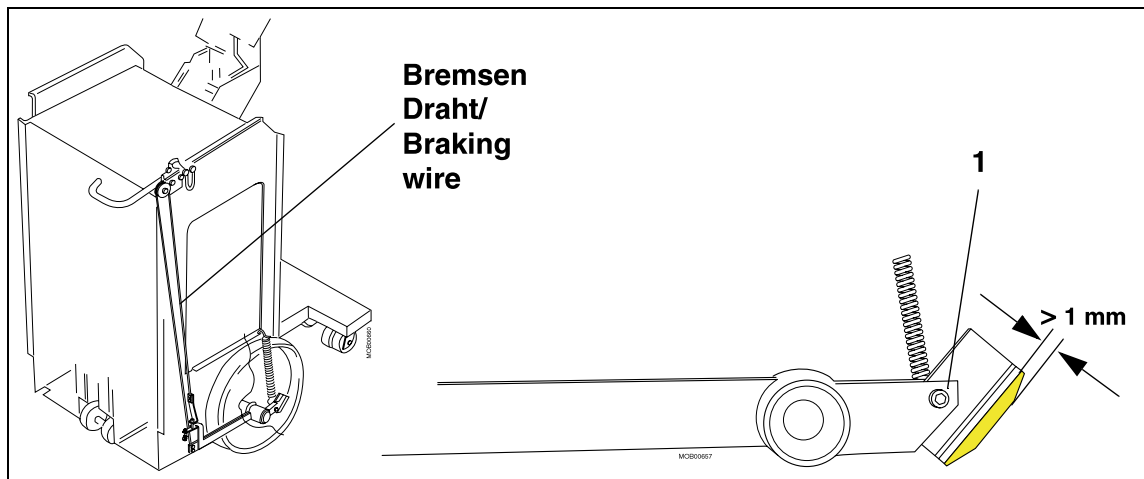

Fig. 59: Wheel brake
- Check the brake linings. If the brake linings are thinner than 1 mm, they must be replaced (Fig. 59 / p. 68).
- Loosen the screw to remove the old lining (Fig. 59 / p. 68) .